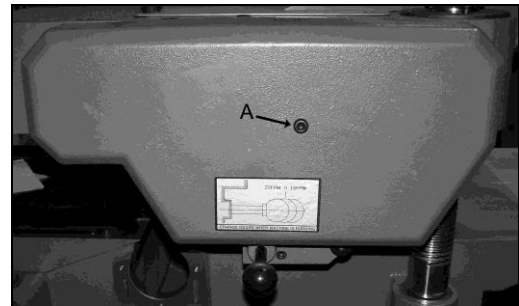

Figure 19
2. Lubricate the feed chain once a month with a light coating of grease. Remove the chain cover to access the chain by removing the allen head screw (A, figure 19).